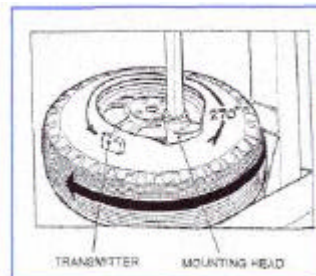

Figure 2 - Tyre mounting procedure
3. Place wheel & tyre on turntable of tyre mounting machine. Ensure that transmitter is 270° (9 o'clock position) from mounting head when the outer tyre bead is mounted as shown in Figure 2.